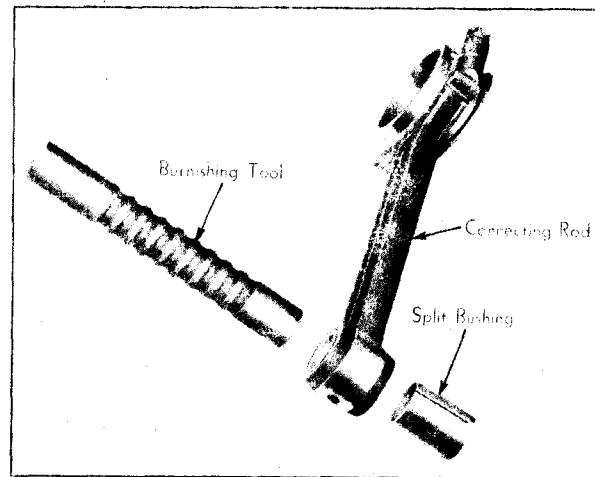

Fig. 62. The piston pin bushing is burnished to press the bronze into close contact with the steel rod leaving a long hard-wearing bearing surface
A new split type of piston pin bushing is used. It is made from thin flat bronze stock. These thin bushings cannot be pressed into the rods in the usual way but must be inserted loosely and expanded by means of a burnishing tool (Fig. 62). This presses the bronze into intimate contact with the steel of the rod and leaves a hard, dense surface with long wearing qualities. Another important factor is the quality of the bushing to retain a more nearly uniform clearance under high temperatures.
(1) Install the bushing in the side of the connecting rod having the larger diameter in the bearing for the crank pin. Make sure that the oil hole in the bushing is in line with the oil hole in the connecting rod and the split is at right angles to the length of the rod.
(2) Press bushing in rod using bushing replacer, tool No. HMJ-250-3. Use a No. 2 or No. 3 Greenard arbor press or its equivalent to press in the bushing.
(3) Expand the bushing with Expanding Bar (tool No. HMJ-250-1). If the bushing protrudes through the connecting rod, file it flush with the rod before burnishing.
(4) Burnish bushing by passing burnishing tool No. HMJ-250-2 through the bushing. See Fig. 62. When expanding or burnishing a bushing use a heavier press such as a No. 3½ Greenard or its equivalent.